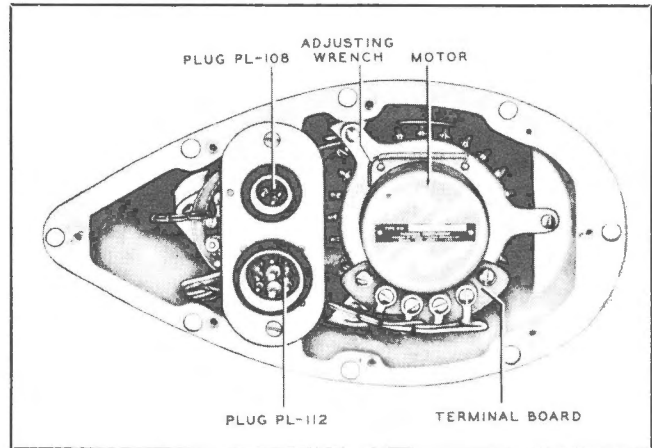

Figure 2-1. Loop LP-21-() — Bottom Plate Removed
(4) Remove the compensator from the loop. (See fig. 2-1.)